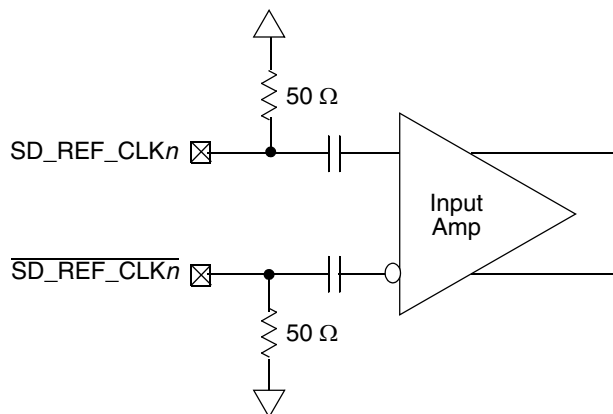

Figure 36. Receiver of SerDes reference clocks
- The SD_REF_CLKn and $\overline{SD\_REF\_CLKn}$ are internally AC-coupled differential inputs as shown in Figure 36. Each differential clock input (SD_REF_CLKn or $\overline{SD\_REF\_CLKn}$) has on-chip $50\text{-}\Omega$ termination to SGND followed by on-chip AC-coupling.